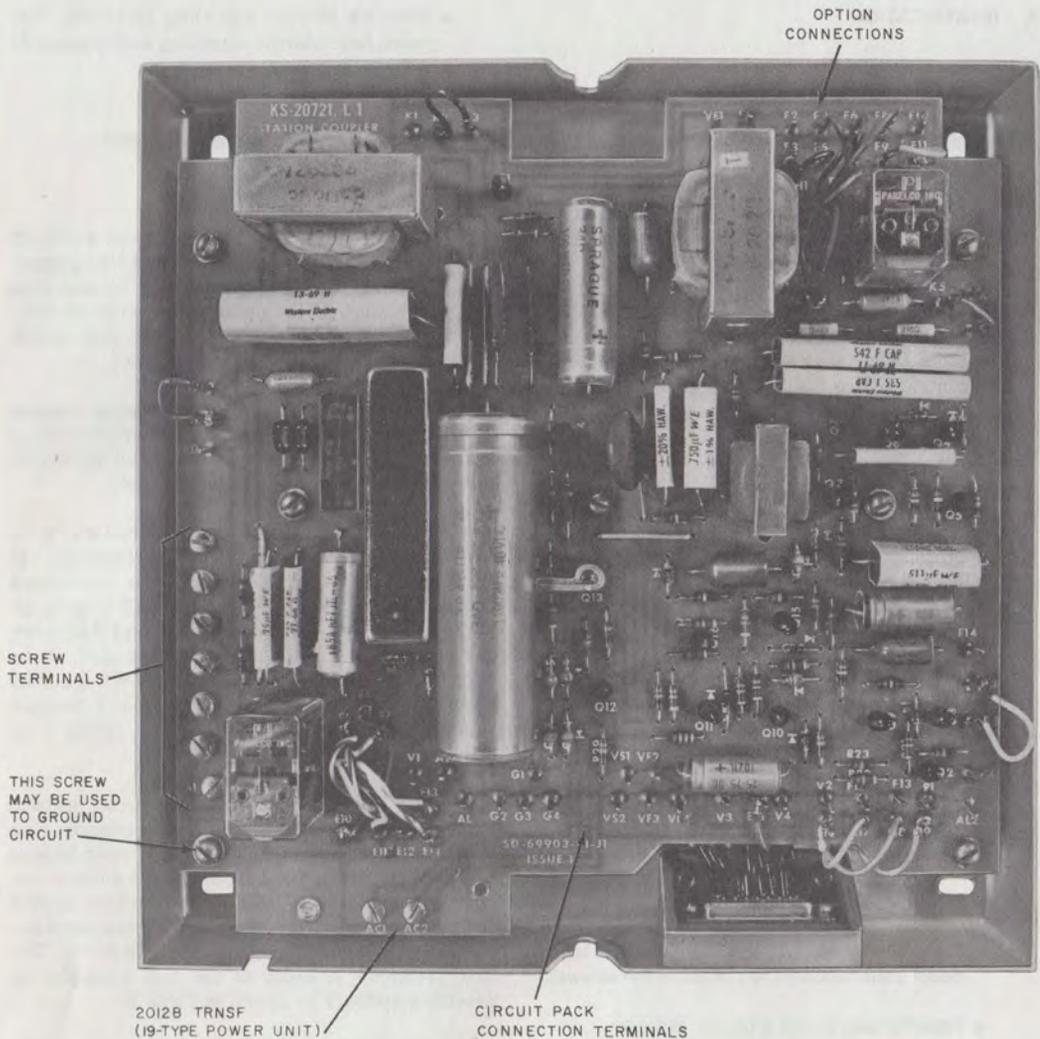
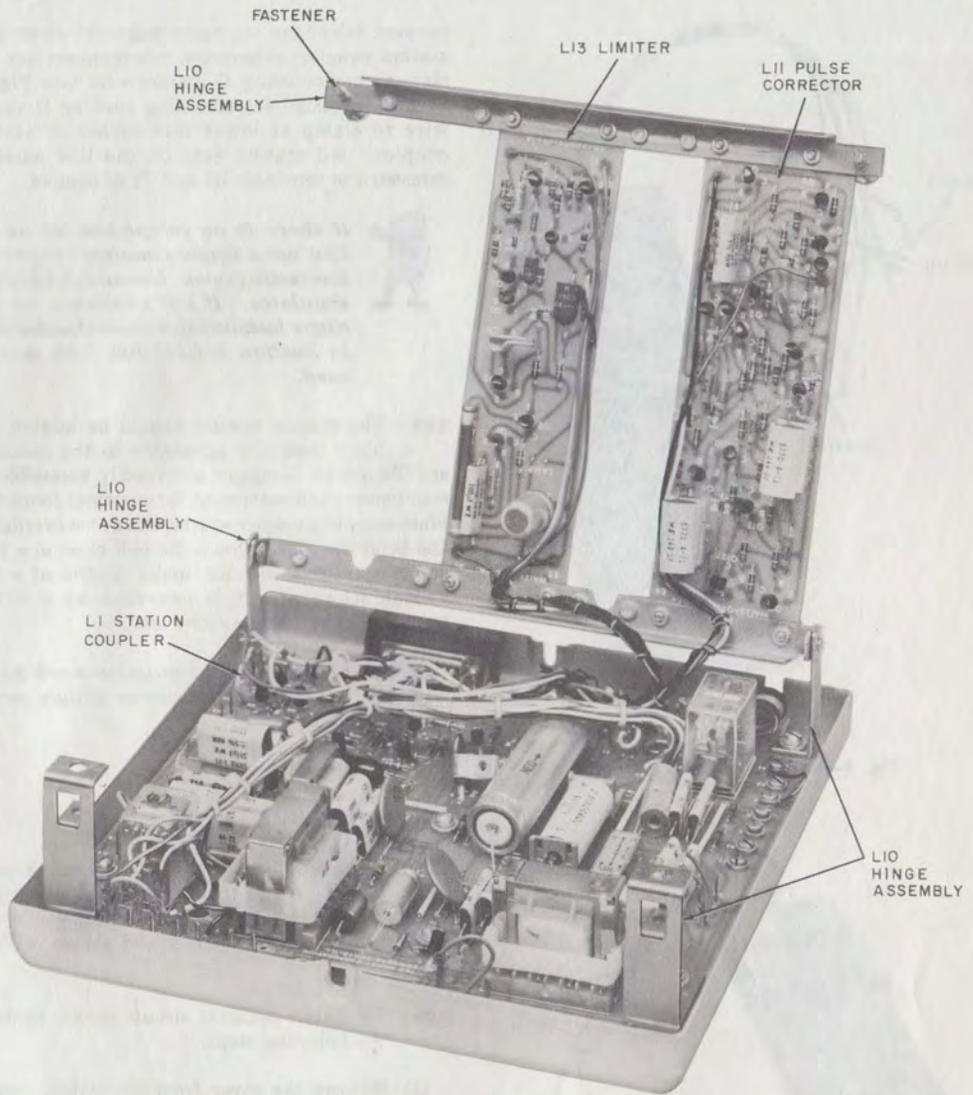

Fig. 2—KS-20721, List 1 Station Coupler, Cover Removed
Fig. 3—KS-20721 Station Coupler Showing Optional Circuit Packs Mounted
Assembly, Hinge, KS-20721, L10 (Fig. 3)
**2.02** The KS-20721, List 1 station coupler (Fig. 2) is the basic unit designed to be field equipped with a KS-20721, List 10 hinge assembly for mounting any combination of the optional circuit packs (Fig. 3). The circuit packs are equipped with quick connect connectors for easy installation.
- (1) Remove the cover from the station coupler using the KS-19192, List 1 tool or screwdriver.
- (2) Attach KS-20721, List 10 hinge assembly to the four corner screws mounting the List 1 board. Refer to Fig. 3.
- (3) The installer can mount the circuit packs on the internal mounting frame formed by the hinge assembly. Place board in correct position on frame (refer to Fig. 3 or cover label) and